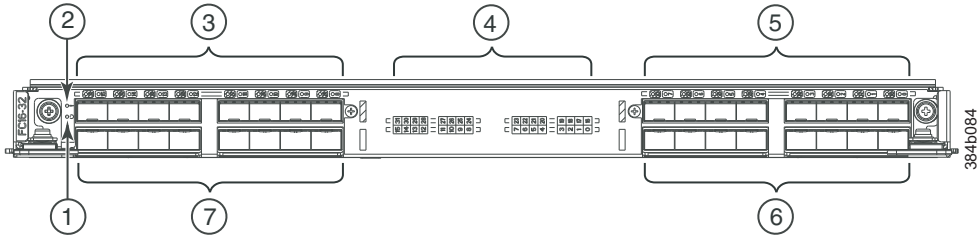

Figure 53. FC16-32 port blade
- Figure 53 on page 142 shows an FC16-32 port blade